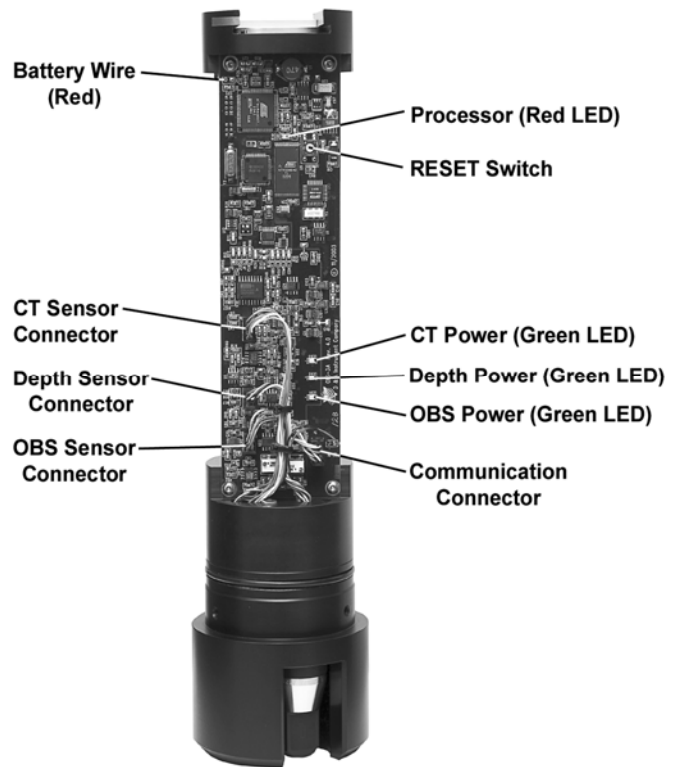

FIGURE 3.19-1. Component locations
- Open unit and inspect for broken sensor and communication wires and loose connectors (FIGURE 3.19-1).